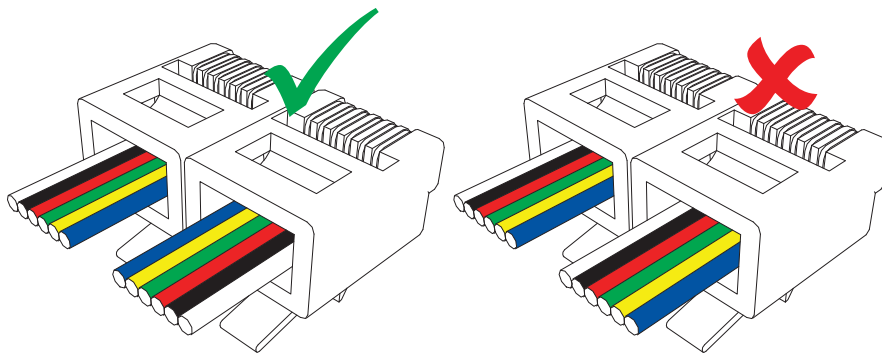

Figure 3.5.1 - The Remote cable Connectors
- A You can buy a replacement cable from any good electronics specialist. The cable must not exceed 10m in length and must be 6 Pin/6 Core RJ12 cable. The cable must be crimped with a 'twisted' type connection. The way to easily tell this is to hold both crimp connectors together as shown in the Figure 3.5.1. A 'twisted' connection will have the colours matched together.